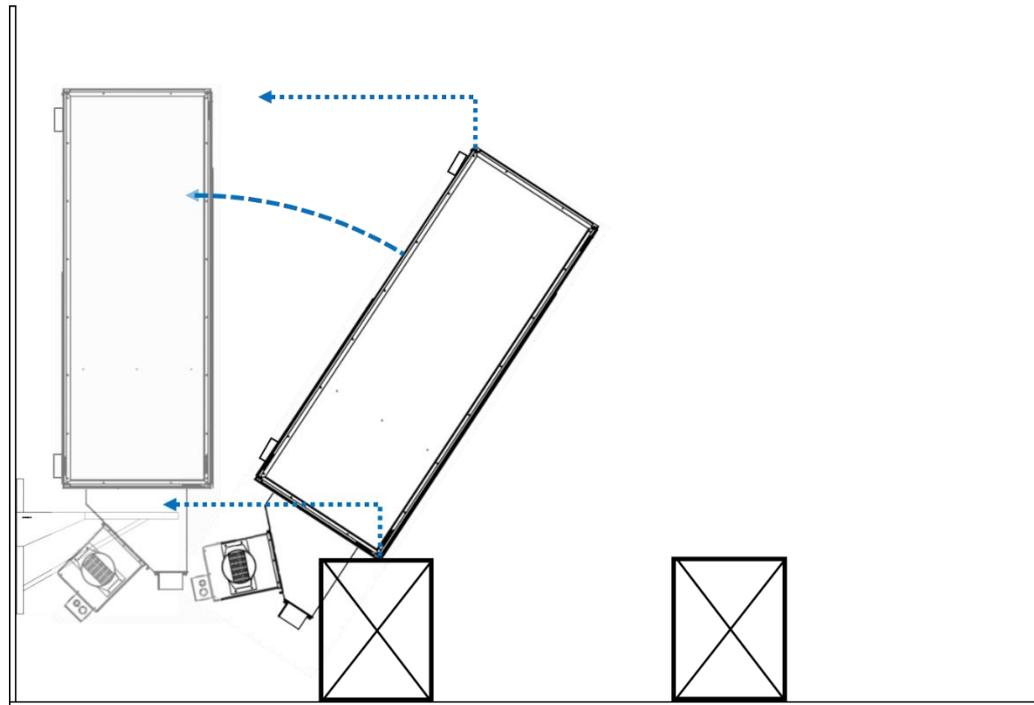

Fig. 33 *Lifting of the dark box: Phase 2*
- 2 Avoiding sudden movements lift the whole system (4 people), insert the prism with light engine between the two stirrups and rest on them the apparatus finishing the verticalization (figure 33). Secure that tamping walls of the dark box do not rest on support structure, but only the casing.